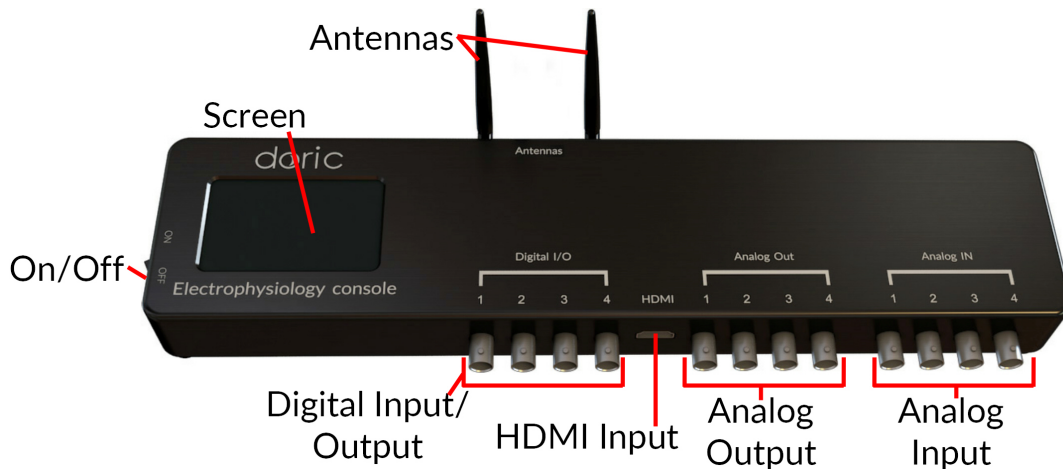
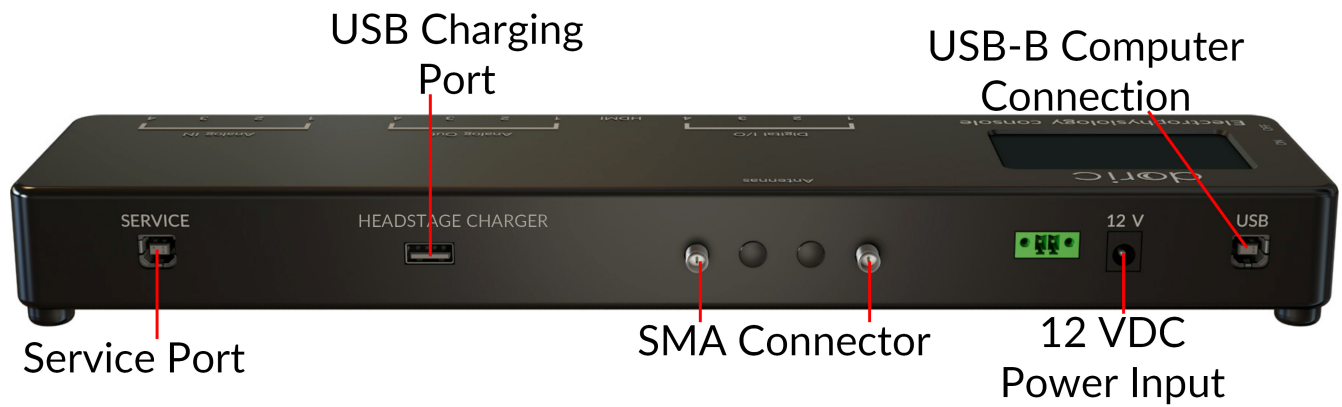

Figure 1.4: *Electrophysiology Console, Front*
Figure 1.5: *Electrophysiology Console, Rear*
The *Electrophysiology Console* (Fig. 1.4) allows control of the different elements, as well as reception and transmission of information from the control computer.
- The **ON/OFF** (Fig. 1.4) switch activates the console.
- The **LCD Screen** (Fig. 1.4) shows the status of the system's channels.
- The **DIGITAL I/O** (Fig. 1.4) ports control, send and receive 0-5 V TTL signals.
- The **HDMI** (Fig. 1.4) port acquires digital signals and digital communications via a custom pinout HDMI connector.
- The **Analog-Out** (Fig. 1.4) ports send a variable  $\pm 4.75$  V signal.
- The **Analog-In** (Fig. 1.4) ports acquire analog signals coming from various inputs.
- The two **Antennas** (Fig. 1.4) connect to the **SMA Connectors** (Fig. 1.5) and allow wireless connection to the headstages.
- The **12 VDC power input** (Fig. 1.5) connects to the 12 VDC power supply.
- The **USB Computer Connection** (Fig. 1.5) port allows connection to a computer using a USB-A/USB-B cable.
- The **USB Charging Port** (Fig. 1.5) is used by the *Fi-Wi Headstage Charger* to recharge the headstage battery. It is best to connect the charger to the console using the *USB-A Male/Female cable*.
- The **Service** (Fig. 1.5) port is a USB-B input through which the firmware of the channels can be updated (for the motherboard firmware update, it's necessary to use the USB Computer connection port).
- Ensure the antenna is fully screwed into the **SMA Connector** (Fig. 1.5).